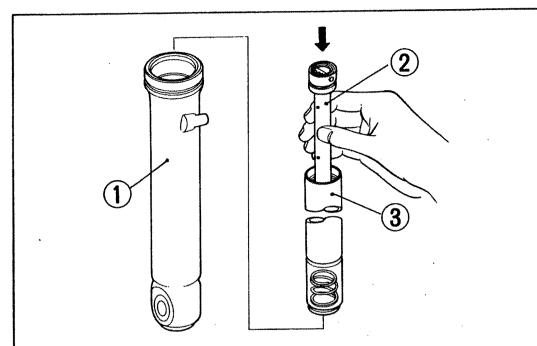

Fig. 41 ① Front fork bottom pipe
② Bottom pipe ③ Fork pipe
- 2) Slide the under seat into place in the fork pipe; insert the suspensions spring. (Fig. 41)